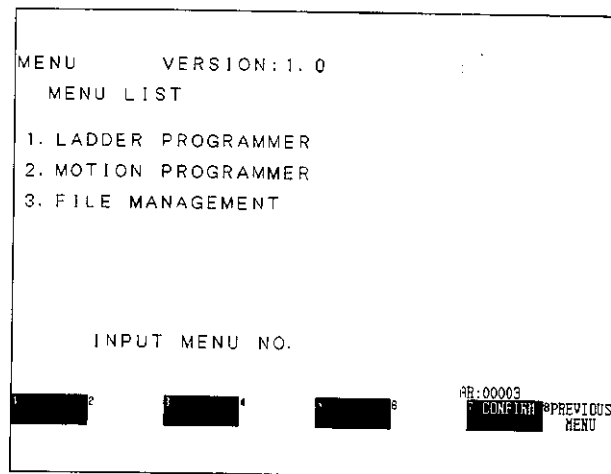

Figure 6.358
(2) Select Choose Model on the screen shown in *Figure 6.358* and the screen will change to the Menu List.